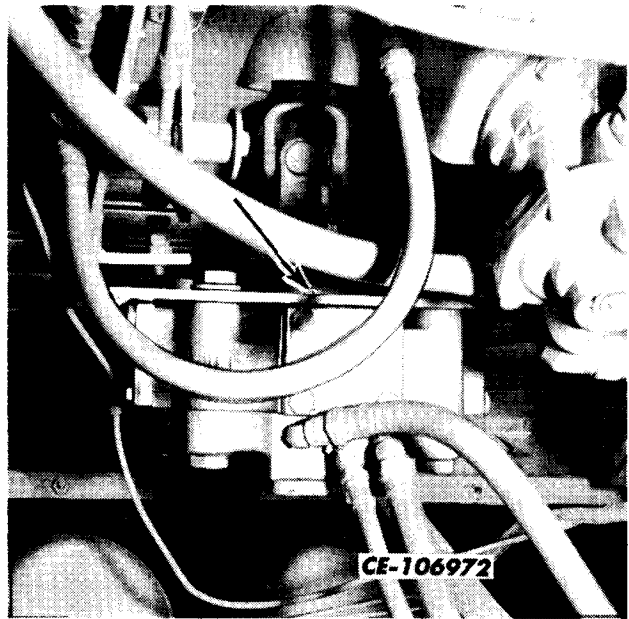

Fig. 41. Remote Control Steering Pump Bleeder Plug
Steering System (Figs. 41, 42 and 43)
2. Connect bleeder hose to plug (Fig. 41) on the remote control steering pump. Turn the steering wheel two turns in each direction. When all air has escaped disconnect hose.